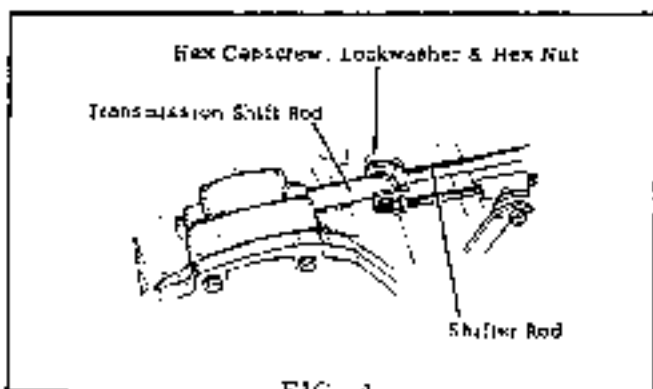

FIG. 4
5. Place shaft "B" and gears into bearing "B" in the transmission case. See Fig. 4.
5. Attach the clevis of the shifter rod to the transmission shift rod, using hex cap screw, lockwasher, and hex nut as shown in Fig. 4.